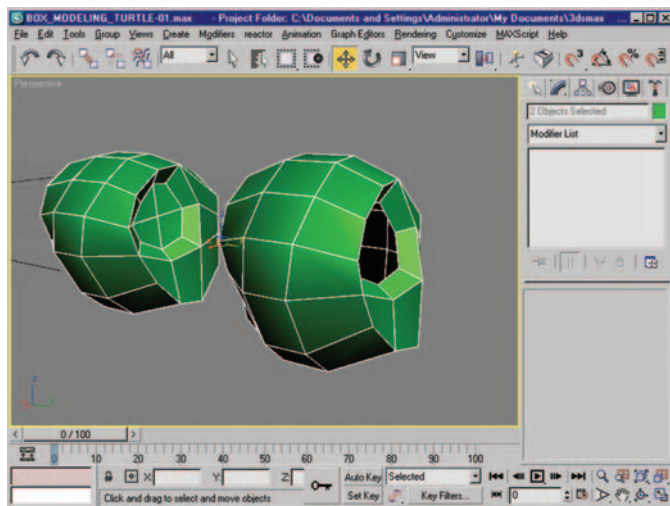

Figure 2.46 Screen capture of the mesh after adding loops and deleting the eye socket polygons.
10. These newly created loops should be scaled vertically in a manner that will retain a round head shape when subdivided. We are also going to delete the four polygons on each side that make up the eye area to create an opening where the eye will later sit. The easiest way to eliminate these four faces is to select the center vertex and delete it. Figure 2.46 shows the results of this step.